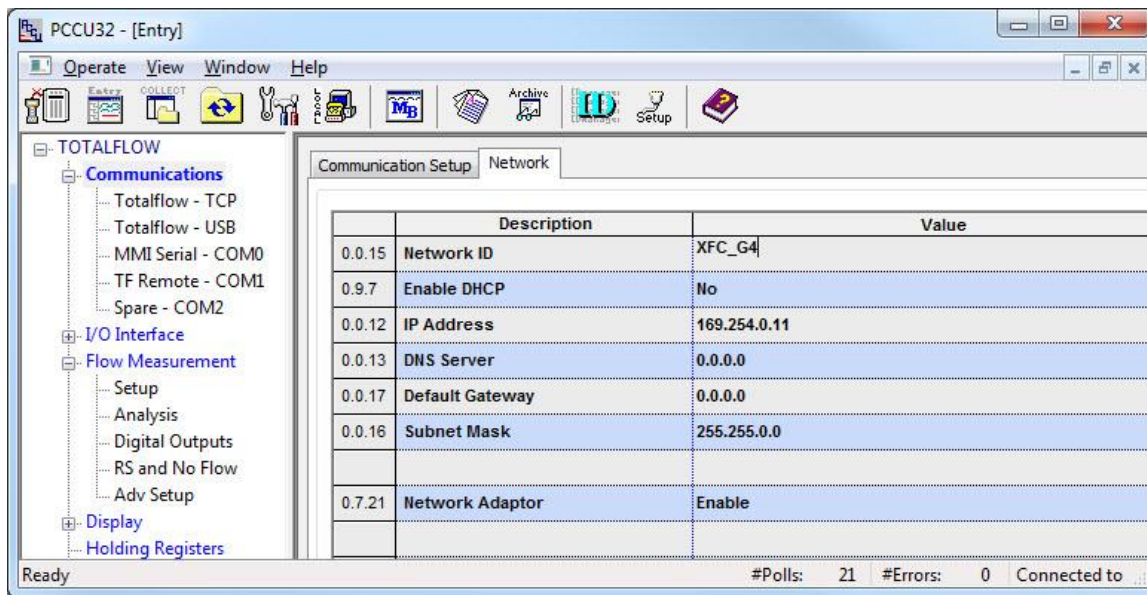

Figure 64 Network Setup: ID
3. Select **Communications**> **Network** tab from the navigation tree. The Network screen displays with options to configure the Ethernet port or Network Adaptor (Figure 64).